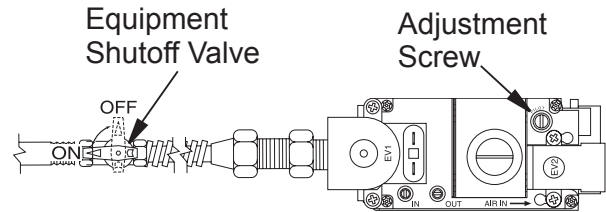

Figure 37 - Turning Equipment Shutoff Valve to the OFF Position
7. Turn equipment shutoff valve clockwise  to the OFF position (see Figure 37).
8. Wait five (5) minutes to clear out any gas. Then smell for gas, including near the floor. If you smell gas, STOP! Follow "B" in the safety information, column 1. If you don't smell gas, go to the next step.
- Turn adjustment screw marked PILOT clockwise to decrease or counterclockwise to increase the flame to proper size (see Figure 37, page 16). Do not remove adjustment screw.